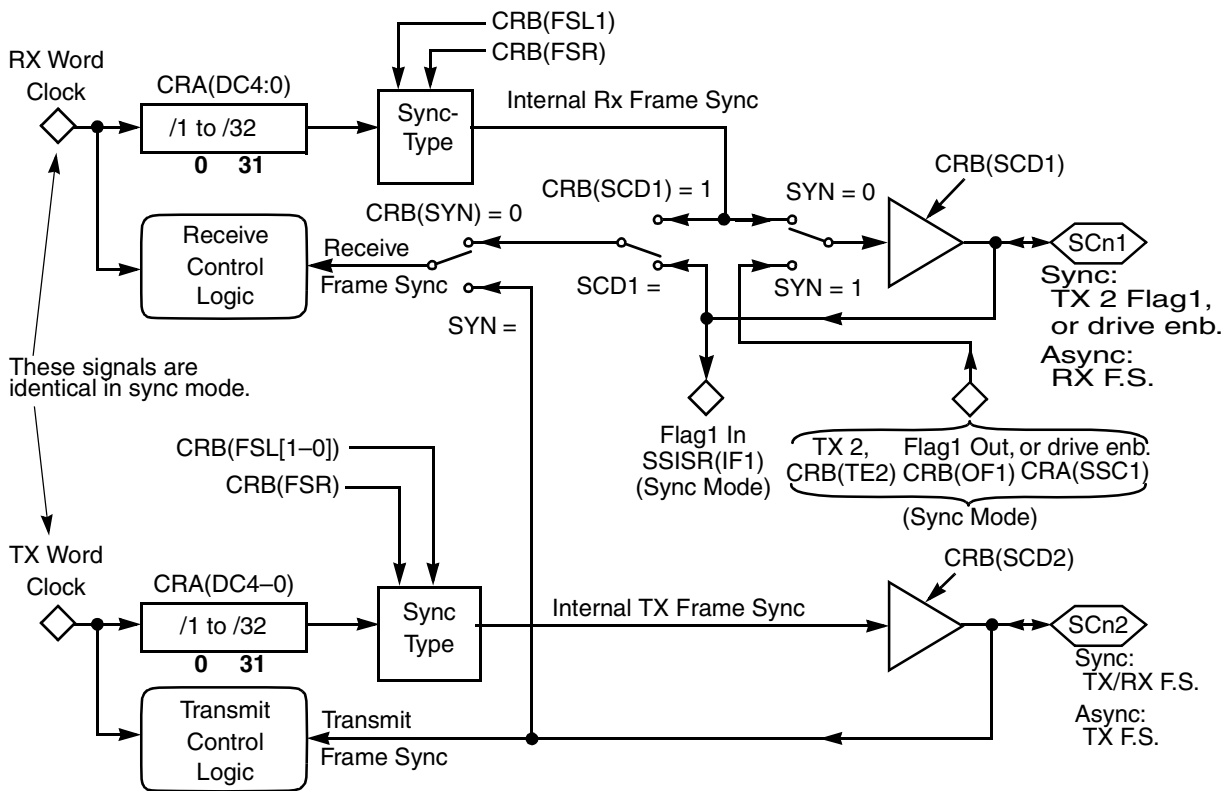

Figure 7-4. ESSI Frame Sync Generator Functional Block Diagram
| 16–12 | DC[4–0] | 0 | <p>Frame Rate Divider Control</p> <p>Control the divide ratio for the programmable frame rate dividers that generate the frame clocks. In Network mode, this ratio is the number of words per frame minus one. In Normal mode, this ratio determines the word transfer rate. The divide ratio ranges from 1 to 32 (DC = 00000 to 11111) for Normal mode and 2 to 32 (DC = 00001 to 11111) for Network mode. A divide ratio of one (DC = 00000) in Network mode is a special case known as On-Demand mode. In Normal mode, a divide ratio of one (DC = 00000) provides continuous periodic data word transfers. A bit-length frame sync must be used in this case; you select it by setting the FSL[1–0] bits in the CRA to (01). Figure 7-4 shows the ESSI frame sync generator functional block diagram.</p> |